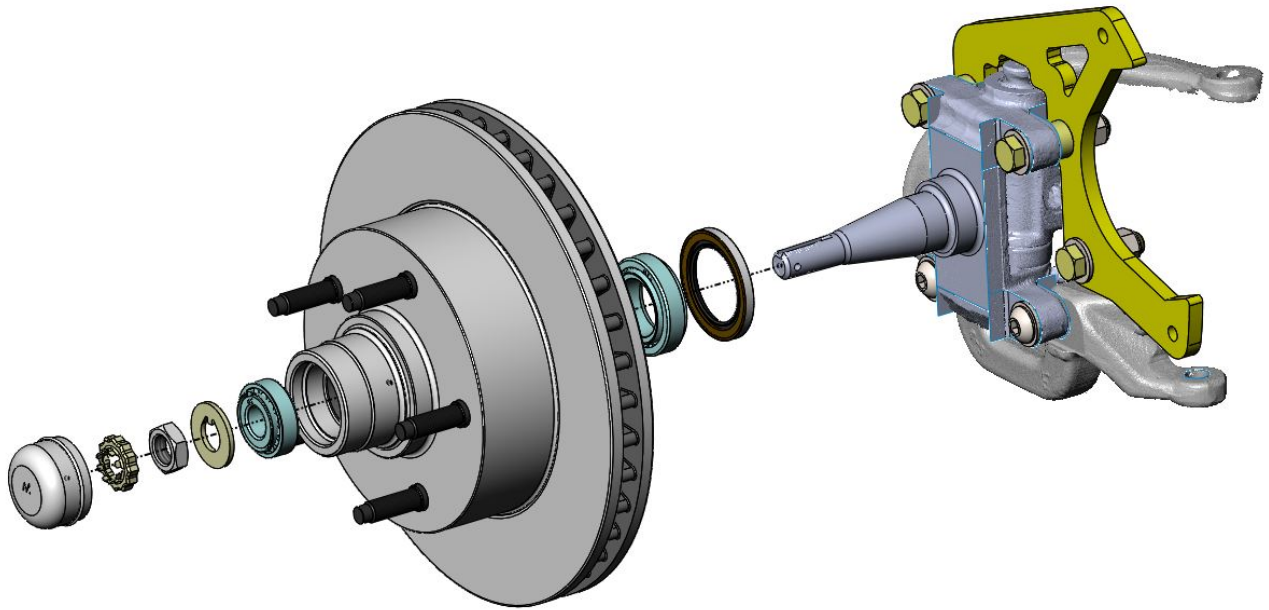
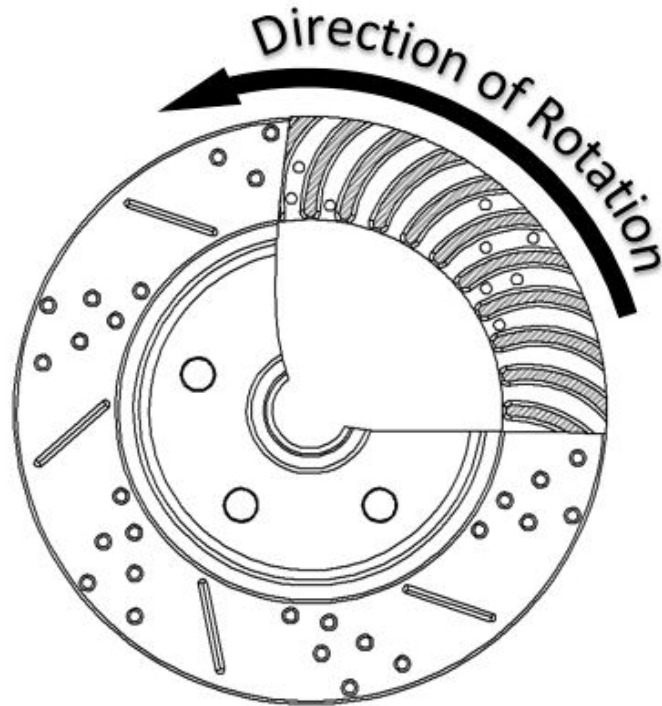

Figure 5 – Component Location
Figure 6 – Rotor Orientation
8. Slide the rotor onto the spindle. The inner wheel bearing and grease seal should be installed at this point. With the rotor fully pushed onto the spindle, install the outer wheel bearing followed by the keyed washer and re-use the original spindle nut. When tightening the spindle nut, tighten to 5-10 ft/lbs. Loosen the nut and tighten again using the same 5-10 ft/lbs. Do this a couple of times spinning the rotor to fully seat the wheel bearings onto the spindle. Loosen the nut a final time and re-tighten to remove all play. Tighten approximately an additional 1/16th of a turn to give the appropriate pre-load and line up the cotter pin hole. Install the cotter pin to secure the nut followed by the grease cap. Figure 5 shows the proper location of each component. **IMPORTANT:** If using slotted and drilled rotors, pay close attention to Figure 6 for proper rotor placement on the driver or passenger side.